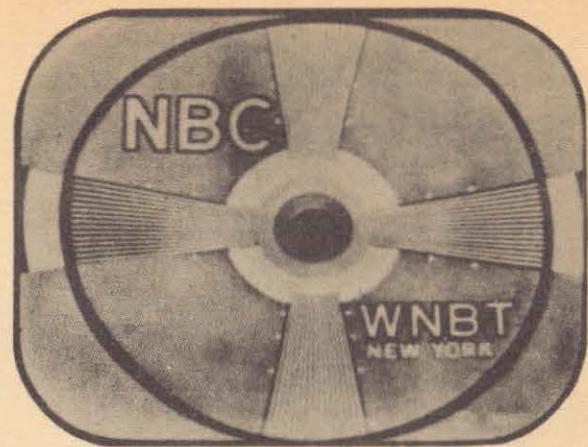
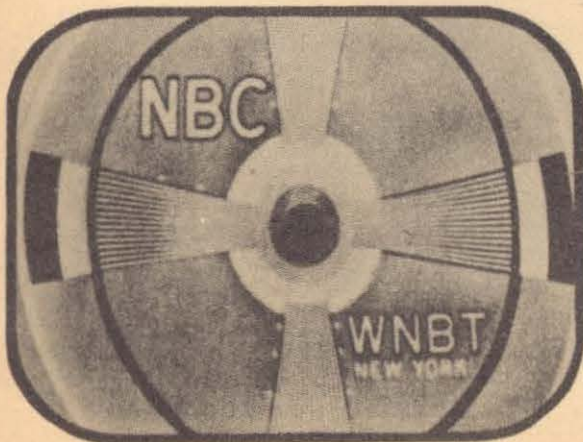

Fig. 14 Width Control Misadjusted
Fig. 15 Height Control Misadjusted
**WIDTH CONTROL.** The width control adjusts the voltage applied to the horizontal deflection plates or the deflection coil. The effect on the received test pattern, when this control is not properly adjusted, is shown in Figure 14.
Figure 15 shows the effect of an incorrect adjustment of the height control on the received test pattern. In this case, as well as that of the width control (Figure 14), the picture is shown as "too high", or "too wide", but symmetrical with respect to the center of the picture. Often the picture is found to be both incorrect in size and "off center". It will be necessary to adjust the size controls (width and height) simultaneously with the horizontal and vertical centering controls.